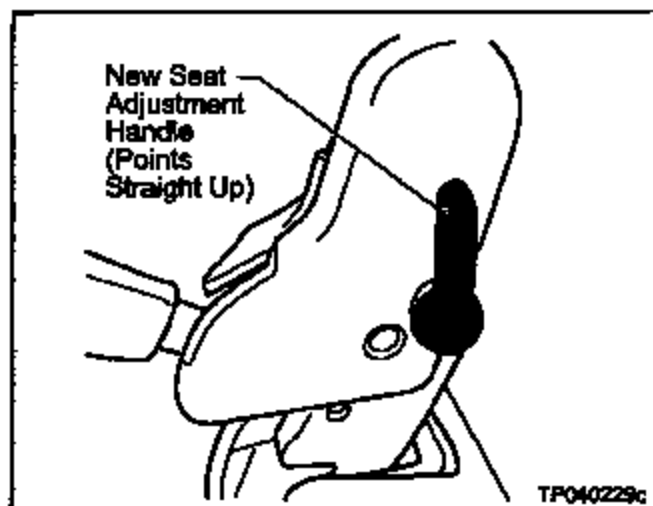

Figure E2
- Make sure the handle is properly positioned (points straight up). See Figure E2.